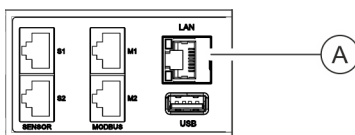

Fig. 24: LAN port
1. ➤ Insert the connector of the data cable into the LAN port on the master PDU (Fig. 24/A).